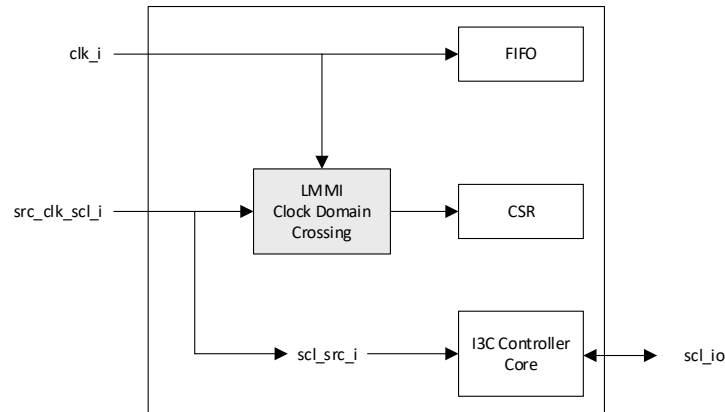

Figure 2.4. I3C Controller IP Clock Domain Block Diagram (Internal Clock Divider Disabled)
Figure 2.4 shows the clock diagram when Use Internal Clock Divider attribute is unchecked in the IP configuration GUI. There are two input clocks, (1) `clk_i` and (2) `src_clk_scl_i`, and one output clock `scl_io`. Each clock is discussed in detail in the Clocking Overview section.